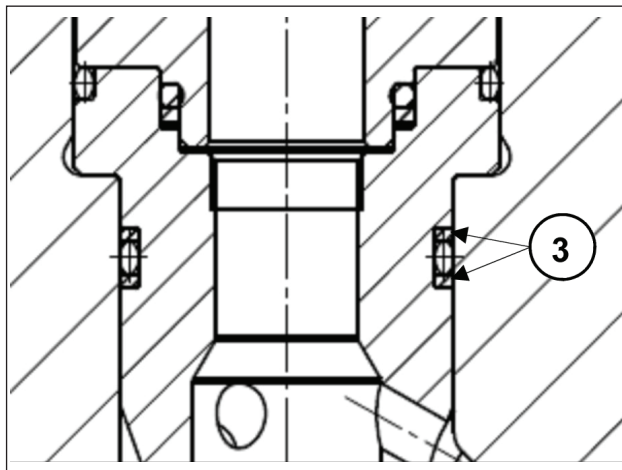

Fig. 28
- 2 **Insert the suction and outlet valve units with their bushes, checking that they are fully inserted in the head seat. Take special care not to damage the anti-extrusion rings on the bushes (Fig. 28, pos. ③). For correct positioning and adjustment of rings in their respective housings proceed as follows:**